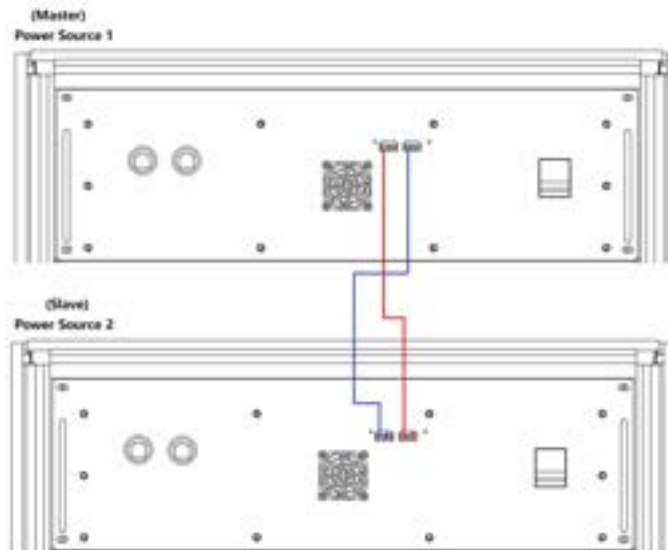

Figure 2-10 Optical fiber cable wiring diagram
Step 2: As shown in Figure 2-10, connect the optical fiber cables of the power supply.